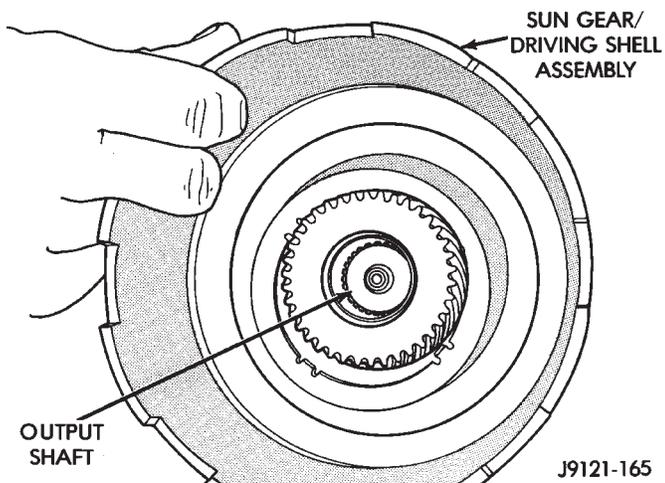

Fig. 200 Installing Assembled Sun Gear And Driving Shell On Output Shaft
(12) Install assembled driving shell and sun gear on output shaft (Fig. 200).